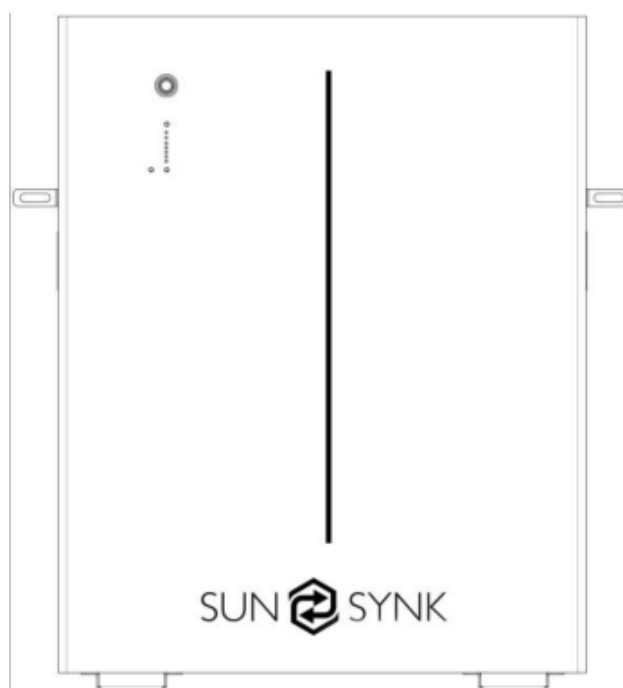

Figure 5-7
5. The installation results are as Figure 5-7.